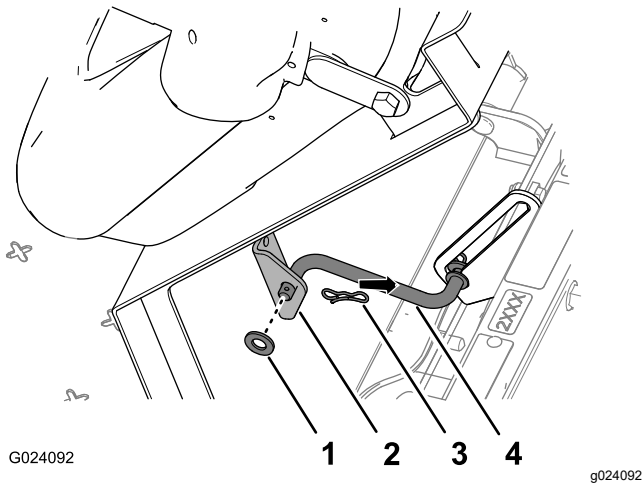

Figure 35
2. Remove the hairpin that secures the prop rod to the bracket at the bottom of the seat plate (Figure 35).